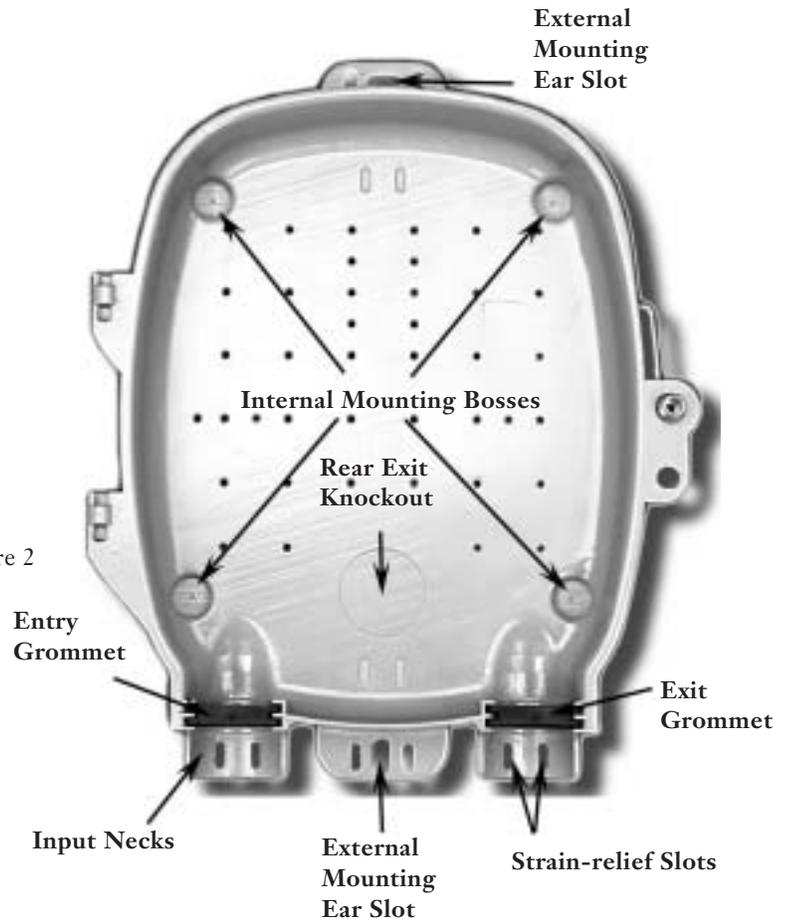

Figure 3
3.3 If cable ties or equivalent will be used for cable strain-relief, route them through the strain-relief slots provided (Figure 3) **prior** to mounting the unit.
4.2.1 The unit may be surface mounted using internal mounting bosses or external mounting slots (Figure 3). To
5.2 Rear Exit. Per the “**Surface Mounting**” section, the rear exit knockout (Figure 3) should have been removed prior to mounting the unit. Route the cable out the rear of the unit directly into the dwelling.